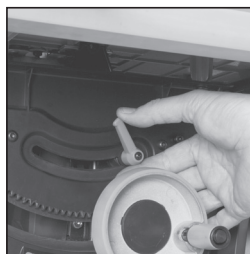

FIG. 13
- Loosen the tilt locking screw (**Fig. 13**) by turning the tilt locking lever.